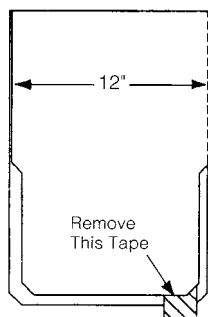

Figure 15-14: Shangle Ridge®.
- Before nailing, be sure to remove the protective tape from the sealant between the cap's two layers (Figure 15-14).